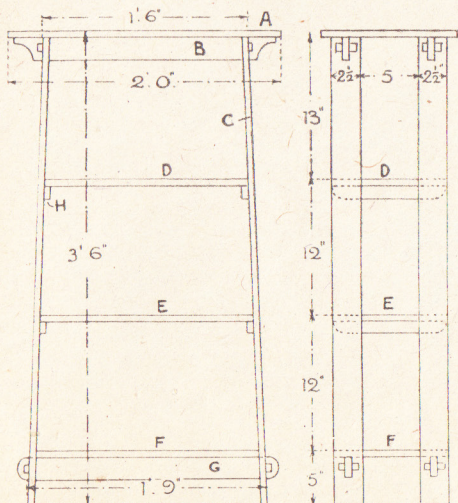

Fig. 2—Front and side elevation
The shelves (D), (E) and (F) are all made up in a similar manner to the top (A), excepting that the edges of the shelves must be bevelled to fit properly against the four uprights. They will afterwards be screwed through to the uprights, and further strengthened by adding shelf bearers (H), which are 10ins. long by 1in. wide by ½in. thick, as seen in position in Fig. 2.